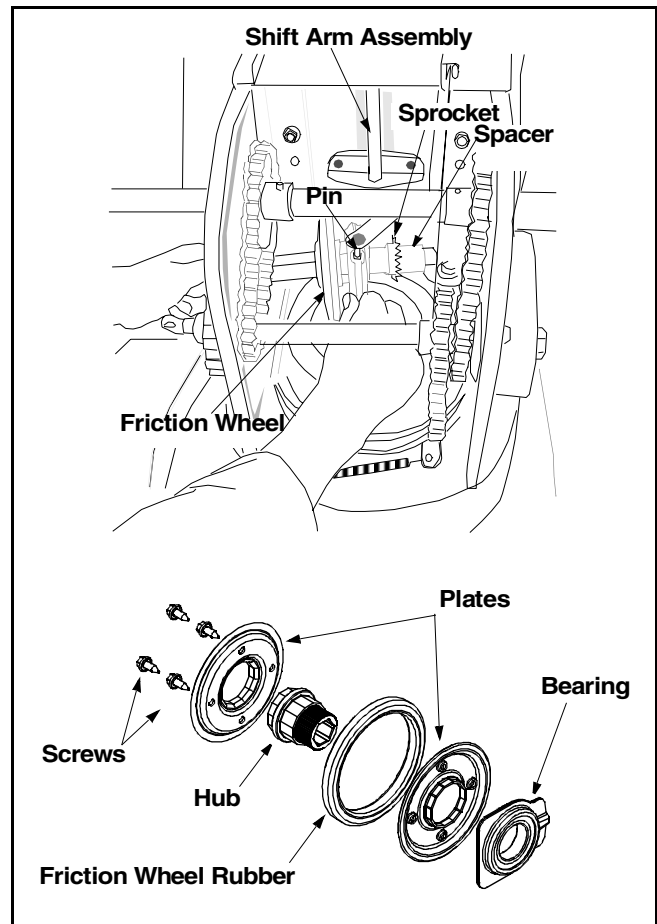

Figure 22
- Using a 7/8” wrench, hold the hex shaft and remove the hex bolts and bell washer and bearing from left side of the frame. See Figure 22.
- Remove the four screws which secure the friction wheel rubber between the friction wheel plates. See Figure 22. Discard the old friction wheel rubber.
- Insert the pin from the shift arm assembly into the friction wheel assembly and hold assembly in position. See Figure 22.